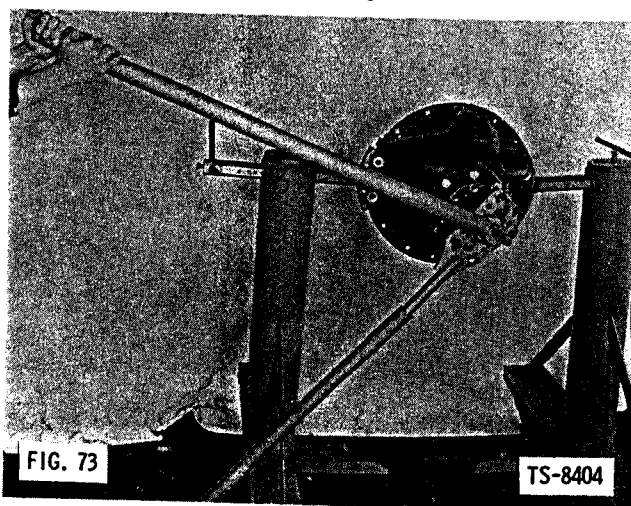

FIG. 73
8. Remove shaft nut as shown in Fig. 73. Remove washer.